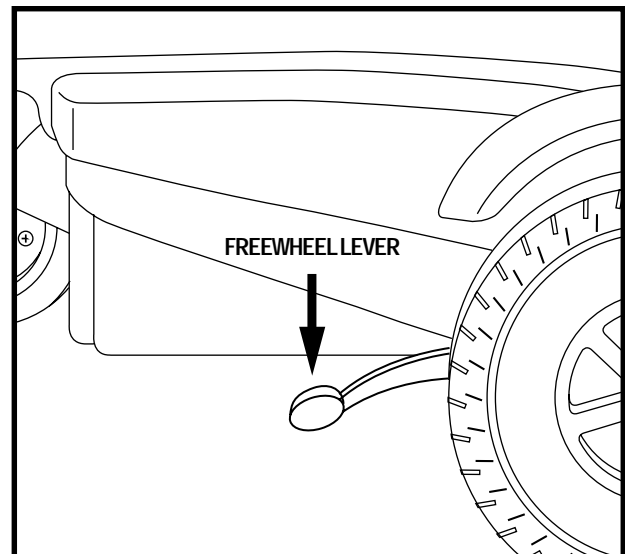

Figure 10. Freewheel Mode (Drive Disengaged)
3. Push both levers downward to disengage the drive motors (freewheel mode). See figure 10.